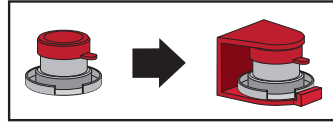

Figure 9. Load IOM cassette into transport clip.
5. After sampling, remove the cassette from the sampler body, place the cover on the cassette, and wipe the external surface of the cassette with a clean lint-free paper, cloth, or soft brush. Place cassette with cover into the transport clip (Figure 9). See *Transporting Samples to a Laboratory on page 7* if post-weighing is not to be performed on the premises.
Note: If inhalable samples were collected to determine exposure to formaldehyde on dust using NIOSH Method 5700, place the cassette cover on the cassette and load it into the transport clip (Figure 9). Send cassette in clip, a blank, and all other pertinent sampling information to a laboratory for analysis.
For gravimetric samples: Place cassette cover on cassette immediately following sampling and insert into a transport clip (Figure 9). Place unit into a sterile plastic bag. Package in a padded envelope and send to a laboratory for analysis. Include pertinent sampling information and blanks. If post-weighing on the premises, see *Analysis, Post-weighing for Gravimetric Analysis* below.